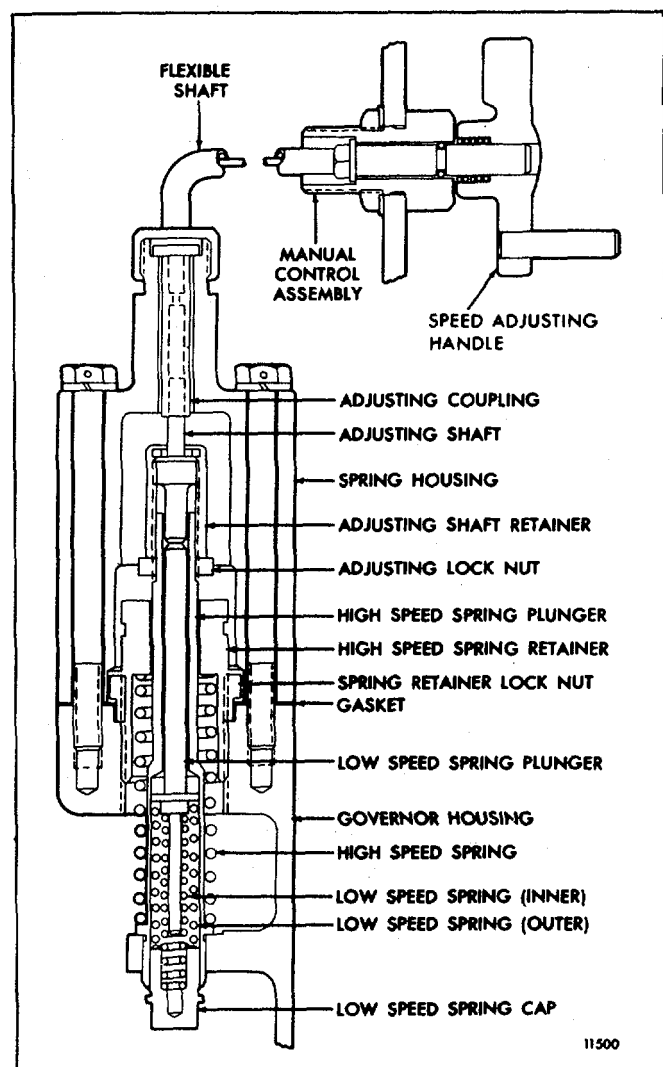
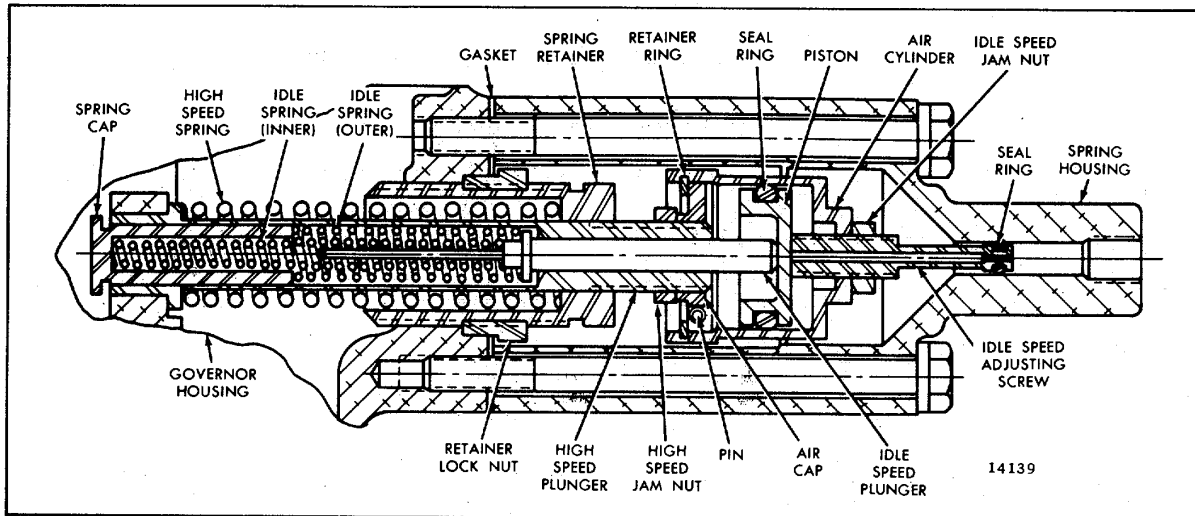

FIG. 1 - Cable Operated Governor Spring Housing and Components
FIG. 2 - Air Operated Governor Spring Housing and Components
During highway operation, the governor functions as a limiting speed governor, controlling the engine idling speed and limiting the maximum operating speed. At the unloading area, the throttle is left in the idle speed position and the speed adjusting handle, on the cable operated governor (Fig. 1), is turned to the speed required within the above range to operate the auxiliary equipment. For the air operated governor (Fig. 2), the engine speed is changed to the speed required by increasing or decreasing the air supply pressure to the governor. The governor then functions as a variable speed governor, maintaining a constant speed when the load is constantly changing, during the unloading operation. Before resuming highway operations, the speed adjusting handle on the cable operated governor must be turned back to the stop, then turned ahead about one-quarter of a turn. The air operated governor's air supply pressure must be vented before resuming highway operations.
idle speed (normal highway idle speed) adjustment as follows (Fig. 1):
4. For *Air Operated Governors* make a preliminary idle speed (normal highway idle speed) adjustment as follows (Fig. 2).